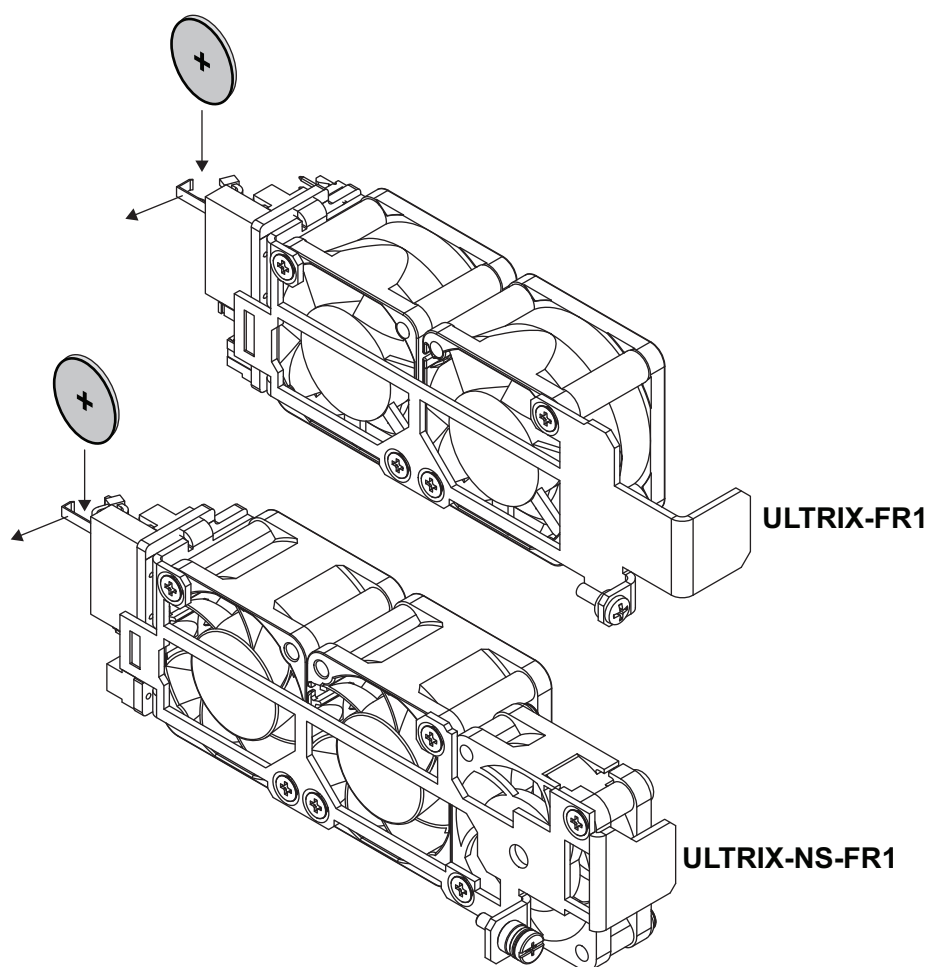

Figure 94 New Battery Orientation —ULTRIX-FR1 and ULTRIX-NS-FR1
1. Hold the battery in one hand and orient it so that the Positive side (+) faces away from you. (**Figure 94**)